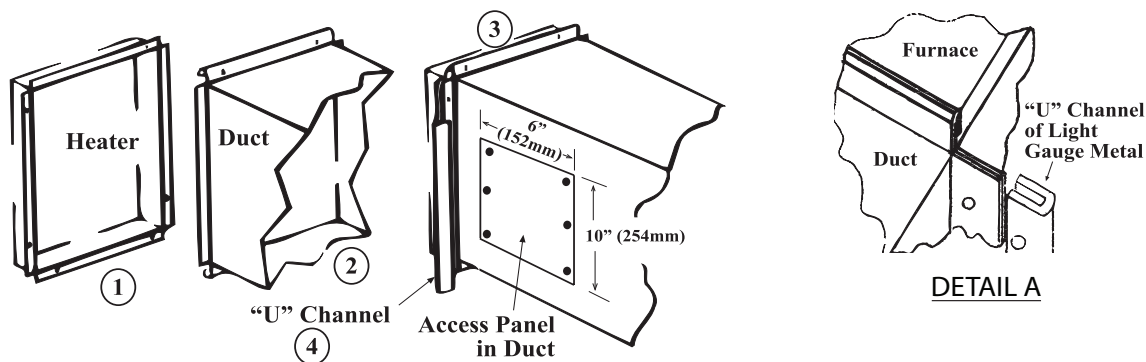

Figure 15. Connecting Ductwork to Furnace
- **Access panels:** Install removable access panels (see Figure 15) on both the upstream and downstream sides of the furnace. The access panels must be accessible when the furnace is in service and should be a minimum of 6 × 10 inches (152 × 254 mm) in size so smoke or reflected light may be observed inside the casing to indicate the presence of leaks in the heat exchanger. Ensure that the access panels are installed in such a manner so as to prevent leakage.
- **Supply air duct/furnace horizontal connection:** The seal between the furnace and the duct must be mechanical using U-type flanges on the top and bottom of the connecting duct to ensure tight joints and an airtight fit. Refer to Figure 15 and perform the following steps: